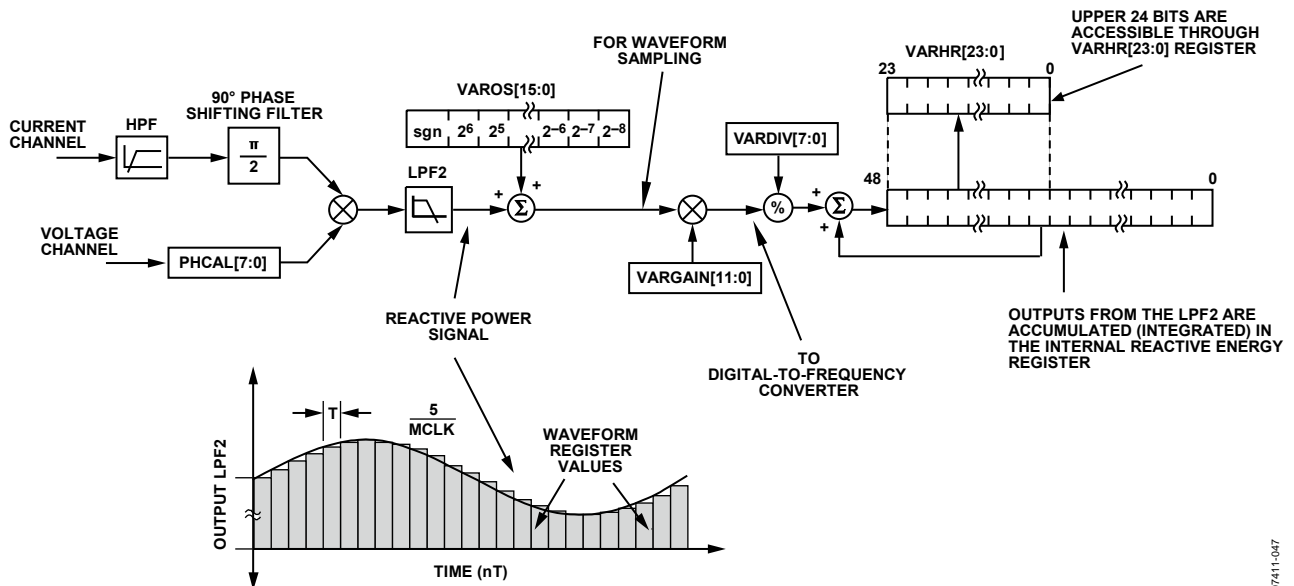

Figure 67. Reactive Energy Calculation
The instantaneous reactive power signal, $q(t)$, is generated by multiplying the voltage and current channels. In this case, the phase of the current channel is shifted by 90°. The dc component of the instantaneous reactive power signal is then extracted by a low-pass filter to obtain the reactive power information (see Figure 67).
Figure 67 shows the signal processing chain for the ADE5169 reactive power calculation. As explained in the Reactive Power Calculation (ADE5169) section, the reactive power is calculated by applying a low-pass filter to the instantaneous reactive power signal. Note that, when reading the waveform samples from the output of LPF2, the gain of the reactive energy can be adjusted by using the multiplier and by writing a twos complement, 12-bit word to the var gain register (VARGAIN[11:0], Address 0x1E). Equation 23 shows how the gain adjustment is related to the contents of the var gain register.
The ADE5169 also incorporates a reactive power offset register (VAROS[15:0] (Address 0x21). This is a signed, twos complement, 16-bit register that can be used to remove offsets in the reactive power calculation (see Figure 67). An offset can exist in the reactive power calculation due to crosstalk between channels on the PCB or in the IC itself. The offset calibration allows the contents of the reactive power register to be maintained at 0 when no power is being consumed.
The discrete time sample period (T) for the accumulation register in the ADE5169 is 1.22 μ s (5/MCLK). As well as calculating the energy, this integration removes any sinusoidal components that may be in the active power signal. Figure 67 shows this discrete time integration or accumulation. The reactive power signal in the waveform register is continuously added to the internal reactive energy register.
As shown in Figure 67, the reactive power signal is accumulated in an internal 49-bit, signed register. The reactive power signal can be read from the waveform register by setting the WAVMODE register (Address 0x0D) and setting the WFSM bit (Bit 5) in the Interrupt Enable 3 SFR (MIRQENH, Address 0xDB). Like the current and voltage channel waveform sampling modes, the waveform data is available at sample rates of 25.6 kSPS, 12.8 kSPS, 6.4 kSPS, and 3.2 kSPS.